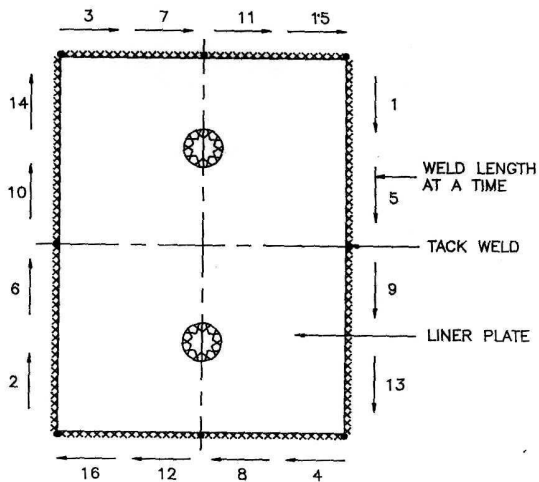

FIGURE 3.1
1. First of all, the liner plate shall be tacked as shown in figure 3.1 at the adjoining surface using lower diameter electrode (3.15 or 4 mm) to prevent distortion of the plate.